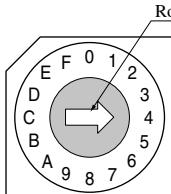

Fig. 1: Rotary S/W P1
- Should setting be necessary, switch off electrical supply, adjust the set point P1(Refer to Fig. 1, Table).